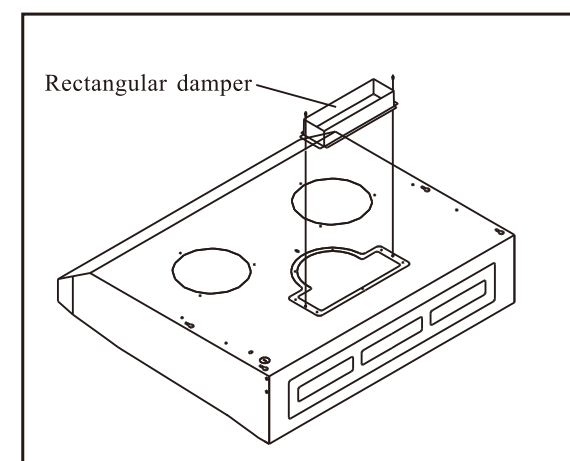

Fig.4 Place and screw the rectangular damper
- (c)Place and screw the rectangular damper with 5/16"L X 5/32" Dia. Screws. (Fig4)